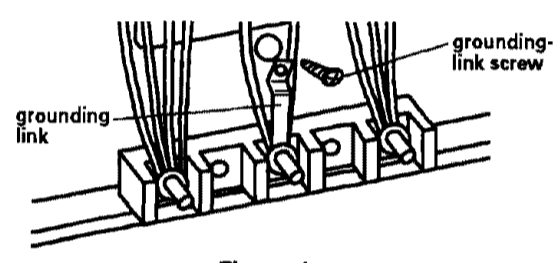

Figure 4
7. Remove the grounding-link screw from the range frame. Save the grounding-link screw. Bend up the grounding link so that it does not contact the range. See Figure 4.